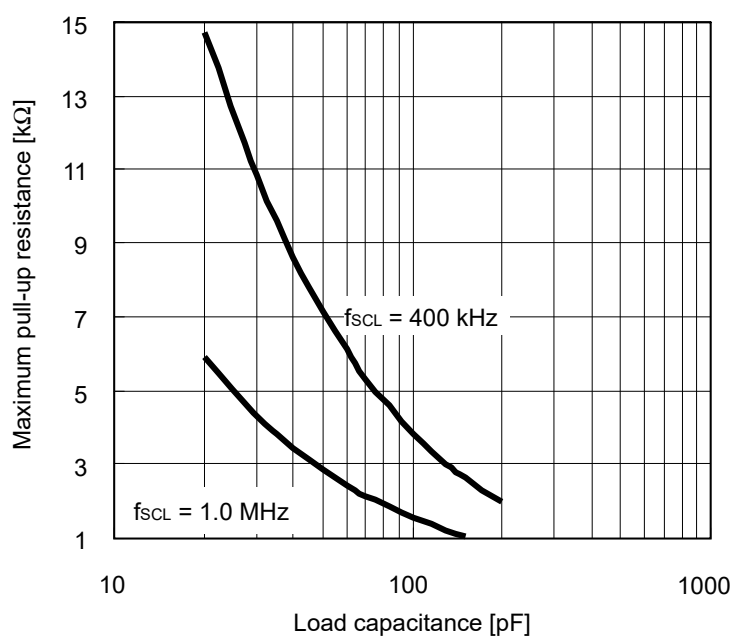

Figure 9 Output Load
*1. Since the output form of the SDA pin is Nch open-drain output, the SDA output delay time is determined by the values of the load resistance and load capacitance outside the IC. **Figure 9** shows the relationship between the output load values.